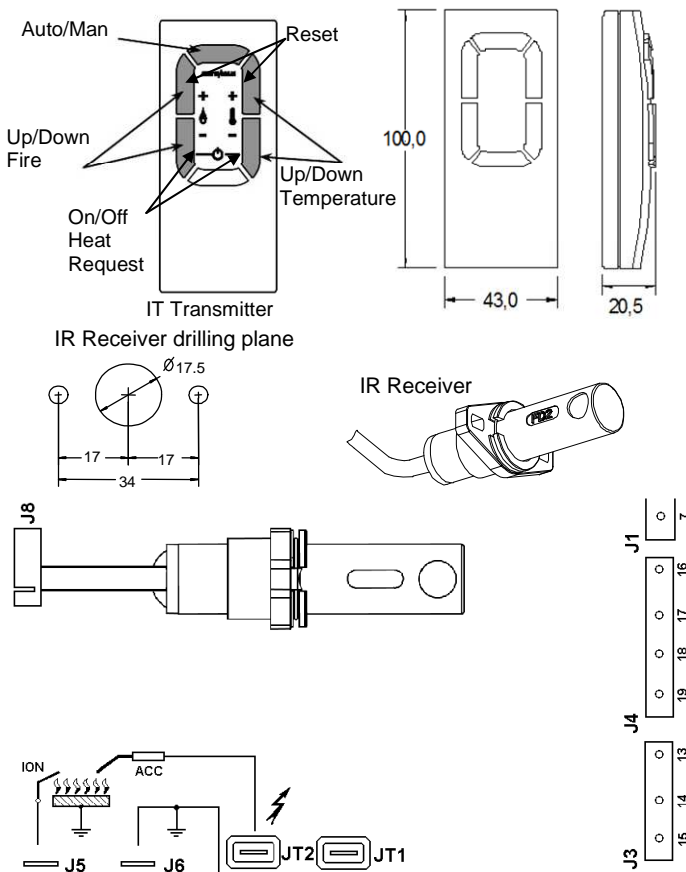

Fig. 5.e –Transmitter and Receiver dimensions, fixing and wiring diagram to NDM device with option URn.
During operation, the contact of the heat request (T) of the NDM device must be in working position. Figure 5.a shows the overall dimensions (mm) of the transmitter, the sizes of the fixing templates (mm) of the receiver and the wiring diagram of the receiver to the J8 gate of NDM or NDMO devices with URn options.
The heat request, by the IR transmitter, is activated (or deactivated) by simultaneously pushing of the "down" buttons, while the reset is activated by simultaneously pushing of the "up" buttons (see fig. 5). The reset are limited to 5 actions every 15min. The functions up/down and auto/man of the IR transmitter can be set on request.